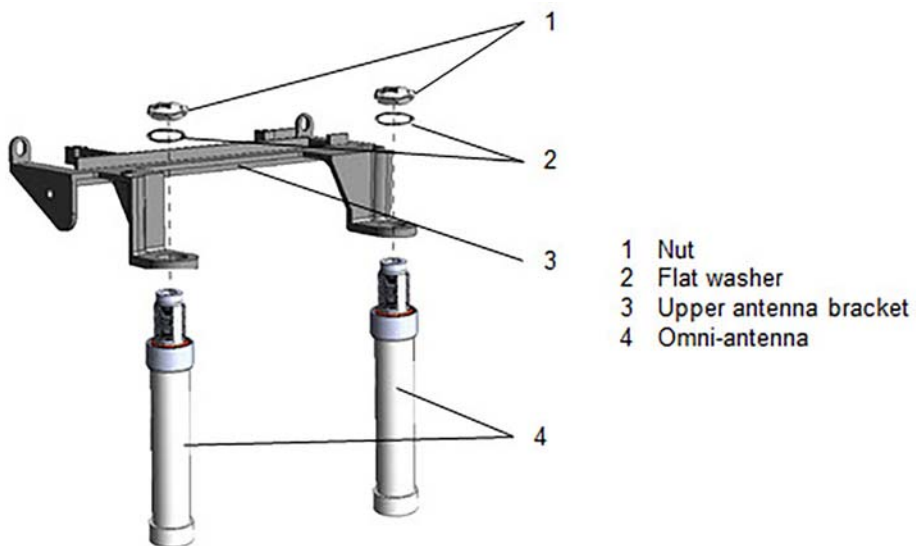

Figure 5-6 Installing omniantenna on lower antenna bracket
4. Install up to two (2) omniantennas on the lower antenna bracket as shown in Figure 5-6 using the supplied antenna hardware.